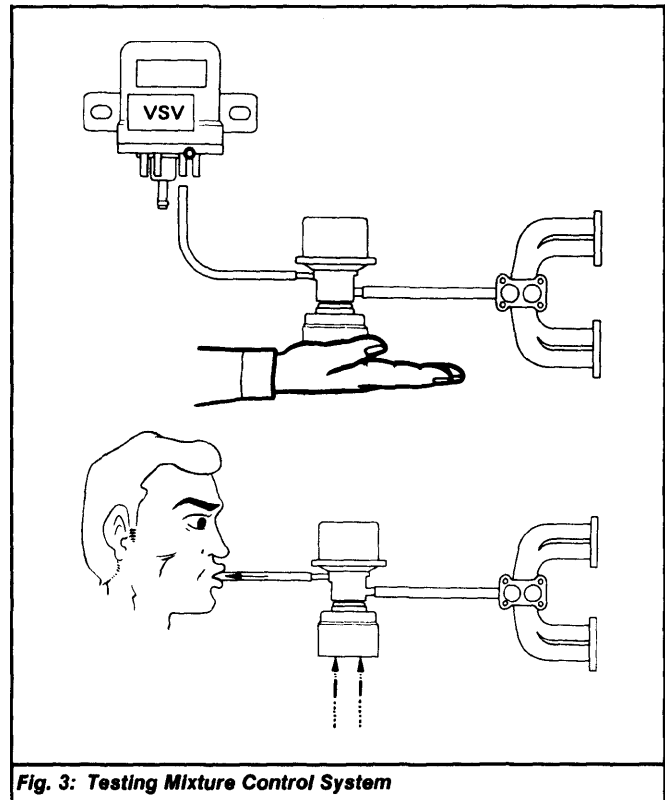

Fig. 3: Testing Mixture Control System
2) If vacuum is felt, mixture control valve is defective. Apply vacuum to disconnected vacuum hose, air should momentarily flow through mixture control valve. See Fig. 3.
4) Increase vehicle speed to at least 45 MPH. At 39-43 MPH, vacuum should be indicated on vacuum gauge. Slowly allow vehicle to decelerate. At 26-36 MPH, vacuum gauge reading should drop to zero (0).